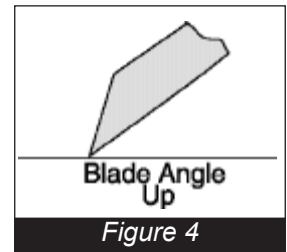

Figure 4
- Generally, on concrete based floors, the bevel on blade should be facing up and at a fairly steep angle. (Figure 4 - angle exaggerated) If the blade “jumps up” from the floor surface, the angle may be too shallow.